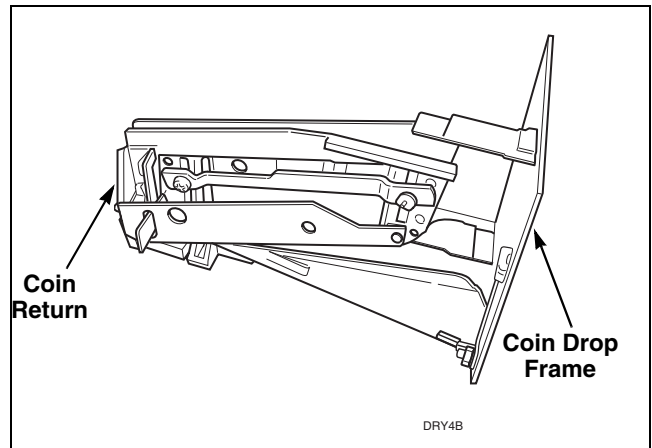

Figure 19
- g. Remove coin return from coin drop frame. Refer to *Figure 19*.